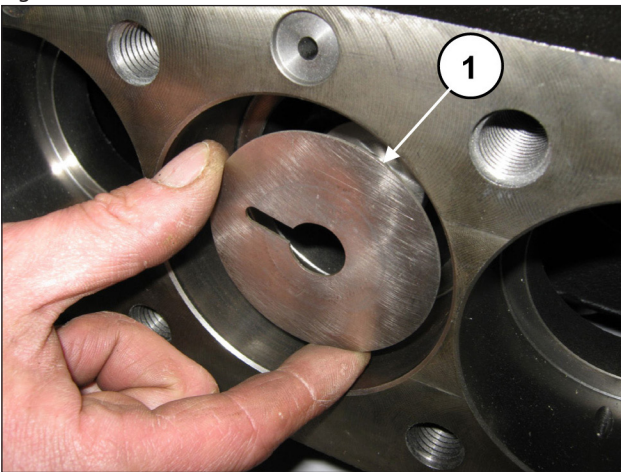

Fig. 171
Remove the spray rings from the piston guides (pos. ①, Fig. 171).